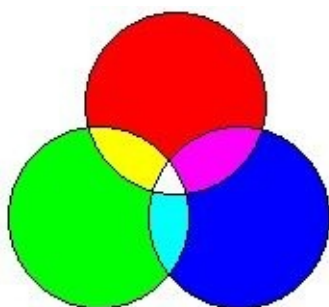

Figure 12-6: Making New Light Colors by Mixing the 3 Primary Light Colors
We can get other colors by mixing the three primary colors of Red, Green, and Blue. The intensity (proportion) of the colors mixed can also affect the color we get. In many high-end graphics systems, an 8 bit value is used to represent the intensity. Its value can be between 0 and 255 (0 to 0xFF) representing high intensity (255) and zero intensity. See Table 12-2. Using three primary colors and intensity, we can make many colors we want. See Figure 12-6.